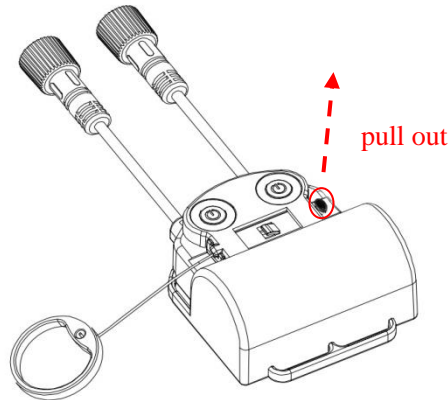
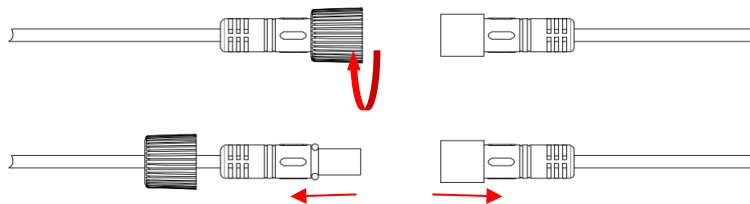

Figure3-1
Figure3-2
3.2.1 In order to ensure that the piston pin cannot be moved and activate the light accidentally, because of strong vibration during transfer & deliver. Each light has a black color safety lock (red circle position in Figure3-1) on piston pin. Before installation, Users **should remove the safety lock** from the light as below Figure3-2 shown.
3.2.2 Disconnect the wire connector to separate the external light and internal light from Main light body as below Figure3-2;
6.2.3 Test the light by pulling out the "O" ring carefully (If it is a new light has not been installed yet, the safety lock (in Figure3-1) must be removed before testing), and the external light must flash and the internal light must light. And manually pressing switch on main body